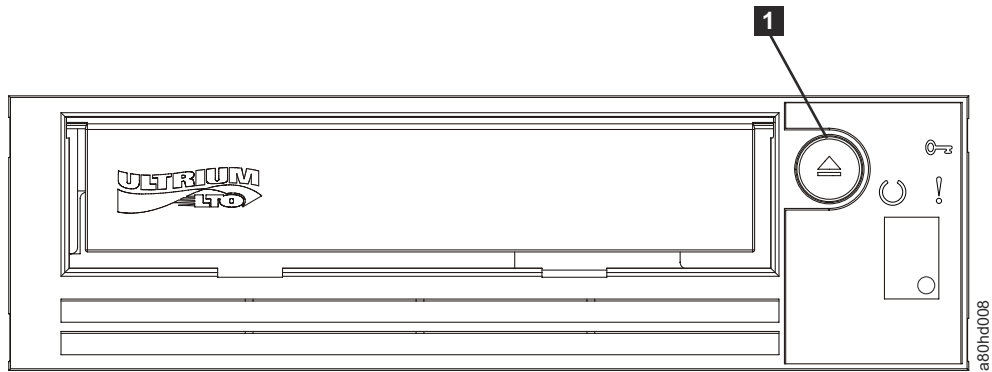

Figure 17. Resetting the drive
You can reset the drive without powering off the drive and system. This action might be necessary if the drive stops responding. Press and hold **Eject** on the front panel of the tape drive for 10 seconds (Figure 17 on page 21). The drive forces a memory dump of vital technical data to drive memory and overwrites the existing dump. The drive then restarts to allow communication.
- Press **Eject**. See **1** in Figure 17 on page 21. The drive rewinds the tape and ejects the cartridge. The ready/activity LED flashes green while the tape rewinds, then goes out before the cartridge ejects.